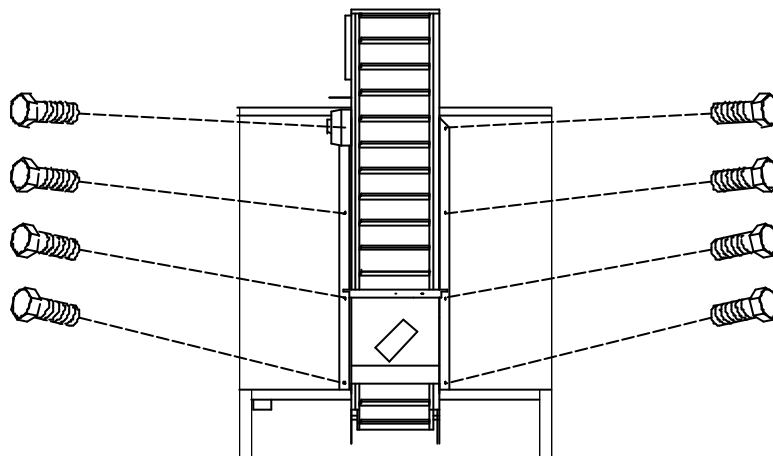

Figure 8: Fastening the elevator
- II. Fasten the elevator to the ball dispenser, the hopper or the ditch with the screws delivered with the machine. See Figure 8: .